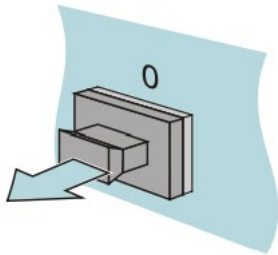

Figure 12: Take out the SFP transceiver
- Take the SFP transceiver out of the transport packaging, refer to Figure 12 below.